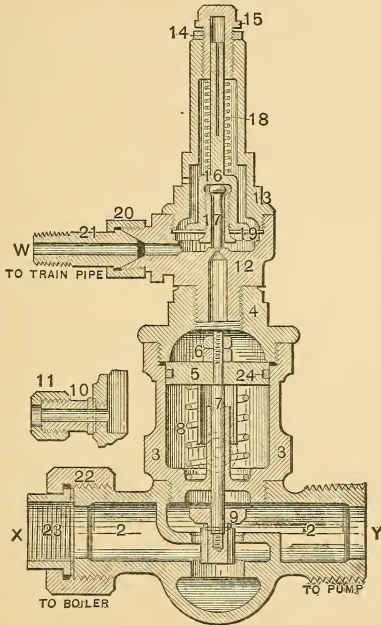

FIG. 23.—OLD STYLE PUMP GOVERNOR.
A. Yes, because instead of one diaphragm, like 19 (Fig. 23) in the old governor, there are two thin diaphragms in the new.